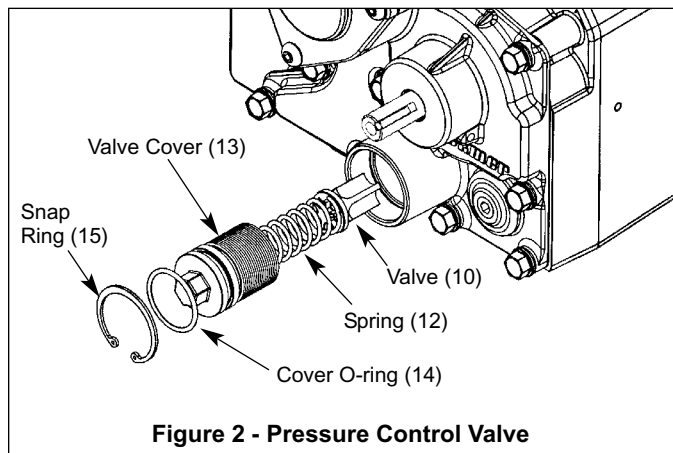

Figure 2 - Pressure Control Valve
2. Install pressure control valve in reverse order of removal. Refer to Figure 2. Apply a light application of grease on the cover O-ring (14) to help keep the O-ring from being damaged during installation.